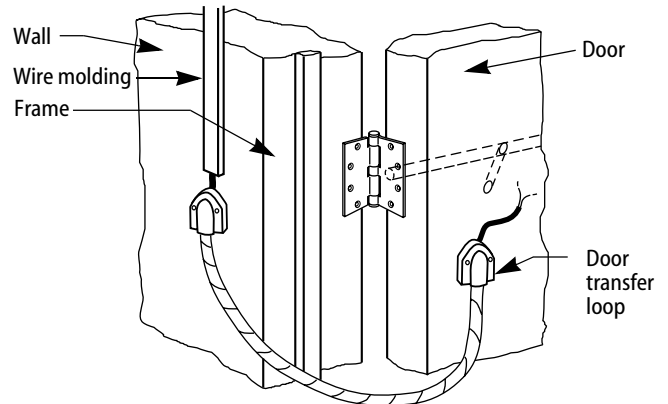

Figure 8—Pulling wire through the door transfer loop
- 2 Pull power supply wires down the wall and through the door transfer loop as shown in Figure 8.